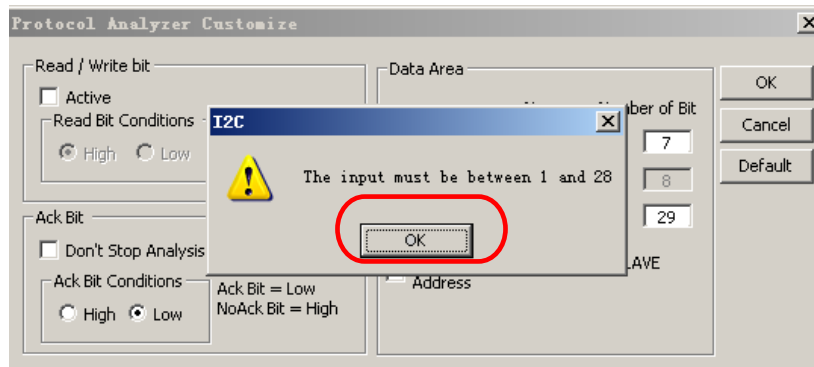

Fig 4-68 – Inputting Data Bits
**Step7. Click Custom Setting to define the I2C Data to meet users' requirements. The dialog box as shown in Fig 4-68 will be displayed.**